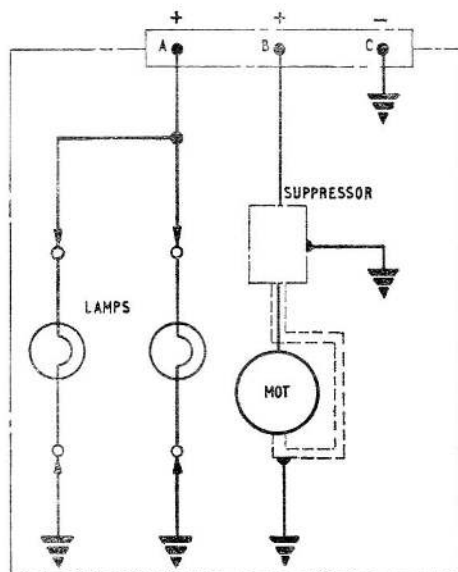

Fig. 1. Circuit diagram
1. The anti-collision lamp, Type G7740-8-24 is similar to that described and illustrated in the main chapter but has minor constructional differences and incorporates a connector plug AN3102A-10SL-3P for electrical connection instead of the two-way terminal block. The connector is mounted on the base of the mechanism cover. A circuit diagram is given in fig. 1.